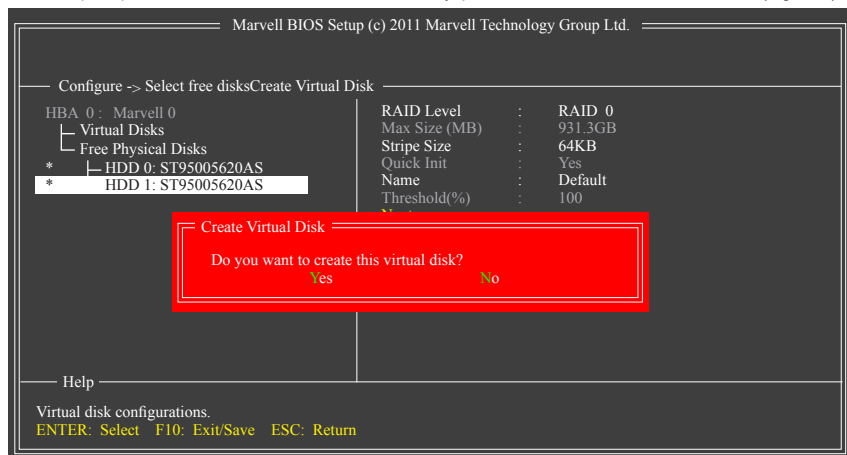

Figure 5
4. **Next:** After completing the settings above, move to **Next** and press <Enter> to begin creating the array. When prompted to confirm whether to create this array, press <Y> to confirm or <N> to cancel (Figure 5).